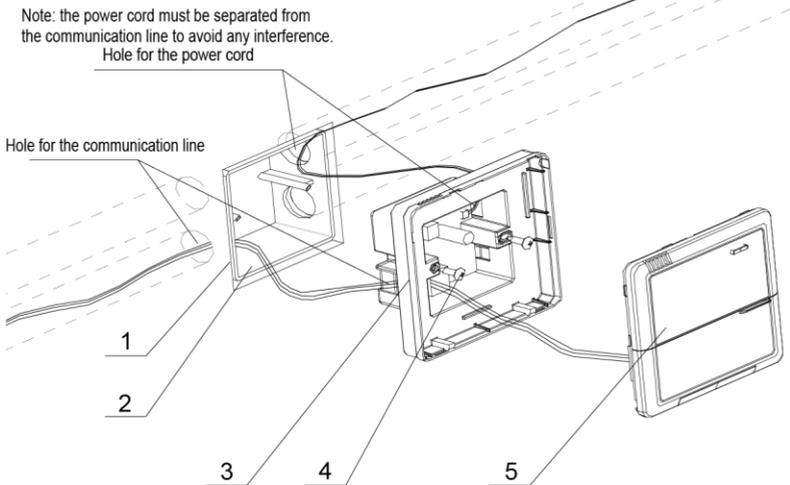

Fig. 5.6 Installation Diagram
- (1) Firstly make sure where to install the smart zone controller.
- (2) Embed the power supply box2 as Fig.5.6 for the installation of the bottom case3.
- (3) Connect the power cord and the communication line of the display board and then let both go through the power supply box2.
- (4) Fix the bottom case on the power box2 by screws.
- (5) Tidy up the power cord and the communication line inside the smart zone controller.
- (6) Close the cover5.